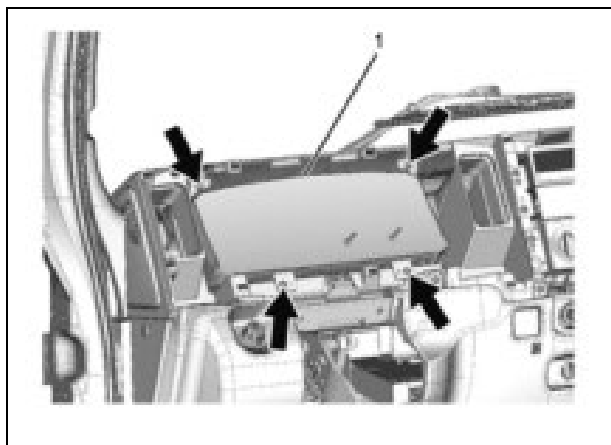

Figure 54
54. Remove the instrument panel cluster from the instrument panel. Remove four (4) T-25 screws and disconnect one (1) connector. (See Figure 54.)